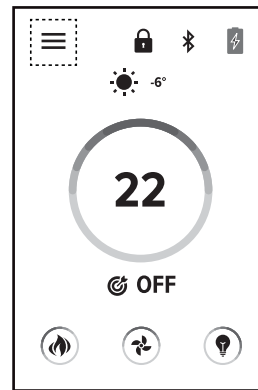

Fig. 1
1. Press the menu icon (Fig. 1).